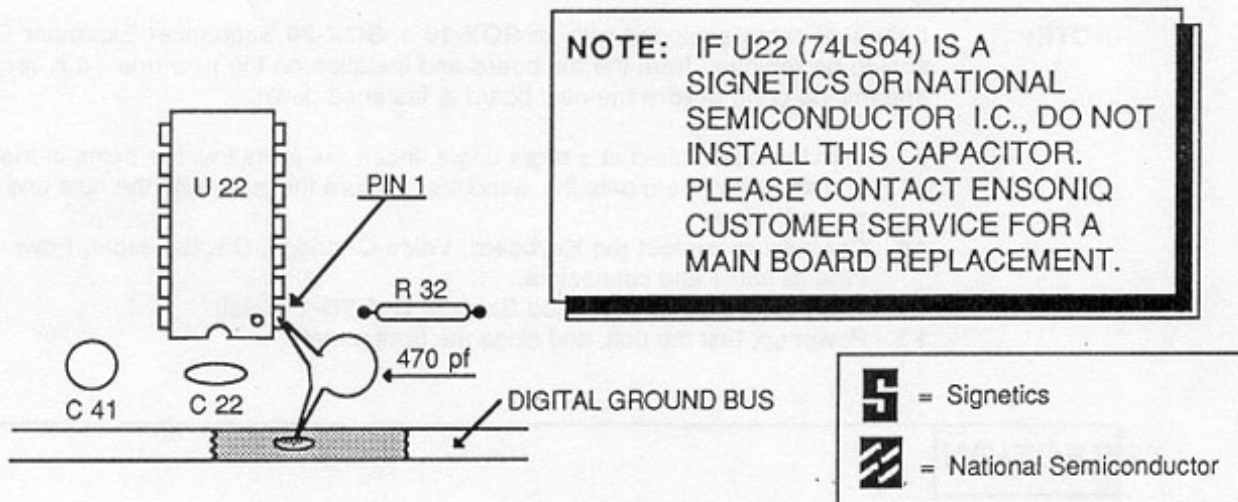

Figure 5
- A. Disconnect all cables from the ESQ-1, including the power cable. Remove the four (4) screws that fasten the control panel and raise the panel.
- C. You should now have access to the main board. Locate U22 (74LS04) and scrape away the solder mask coating (from about 1/4 inch of the digital ground bus directly across from pin 1 of U22 -- see Figure 5). Tack-solder a 470pf capacitor between pin 1 of U22 and the scraped portion of the ground bus.